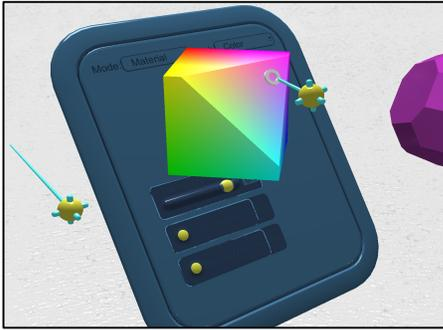

Figure 2: Floating tool panel with color cube
over the user's non-dominant hand (Figure 2). With just a few buttons on each controller and THI/MakeVR's virtual panel, the user accesses functionality that requires deep menus and dialog boxes in other programs.
- **Materials:** Manually set material properties via texture browsers and a 3D color cube (Figure 2). Automatically impart material properties during Boolean cuts.